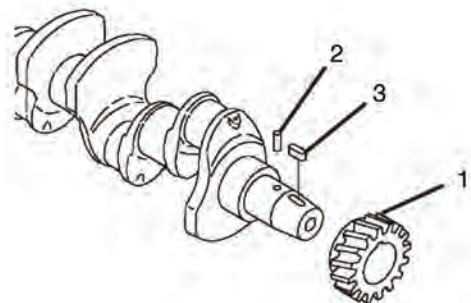

Figure 187
8. If necessary, remove the crankshaft gear (1, Figure 187), parallel pin (2, Figure 187) and key (3, Figure 187). If using a gear puller, be careful not to damage the threads in the end of the crankshaft.